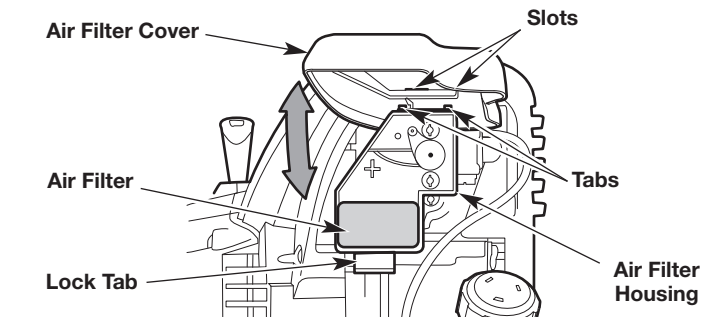

Fig. 29
1. Open the air filter cover: press in the lock tab and swing the air filter cover up (Fig. 29).
2. Remove the air filter from the air filter housing (Fig. 29).
6. Reinstall the air filter in the air filter housing (Fig. 29).
7. Close the air filter cover: insert the tabs on the air filter housing into the slots on the air filter cover. Swing the air filter cover down and press it closed until the lock tab snaps into place (Fig. 29).